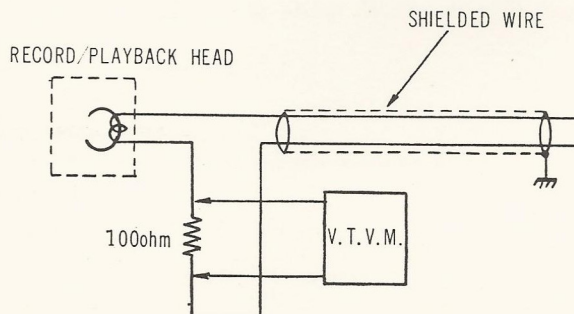

Fig. 1
1. Unsolder the ground lead between the SHIELDED WIRE and the RECORD/PLAYBACK HEAD. (See Figure 1)
3. Connect a V.T.V.M. across the 100 ohm resistor as illustrated in Figure 1.